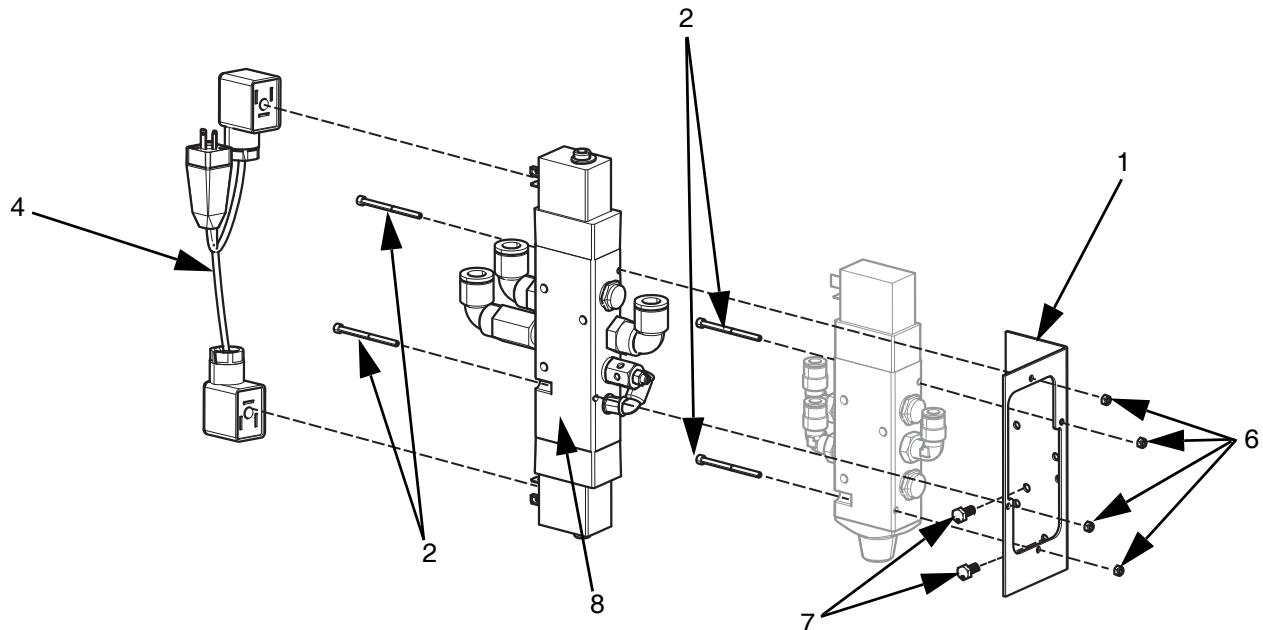
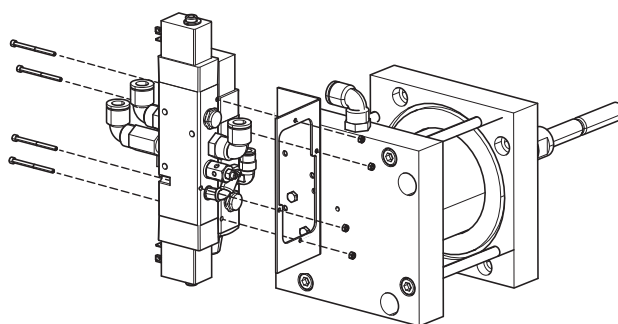

FIG. 1: Parts in Valve Upgrade Kit 24Z939
FIG. 5: Attaching the Valves to the Bracket
8. As shown in Figure 5, attach both valves to the bracket using the four socket head screws (part #128266) and nuts (part #C27076) included in the kit. For an additional view of the orientation of the valves, see Figure 1 on page 3.